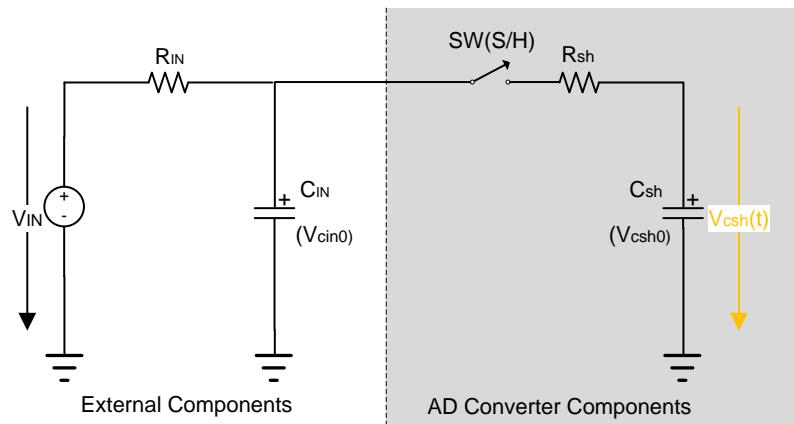

Figure 10. Analog signal source resistance
*Figure 10* shows the analog signal source resistance effect. The effective charging of  $C_{ADC} = C_{IN} + C_{sh}$  is governed by  $R_{IN} + R_{sh}$ , so the charging time constant becomes  $tc = (R_{IN} + R_{sh}) \times C_{ADC}$ . The required settling time to be safe to sample the input is  $tc \times$  multiplier, where the multiplier is 11, 8.3, 6.93 respectively for ADC resolution of 16-bit, 12-bit, and 10-bit. If the sampling time is less than the settling time required, the digital value converted by the ADC is less than the actual value. Therefore, ensure that the analog signal source resistance be within the ADC specification.